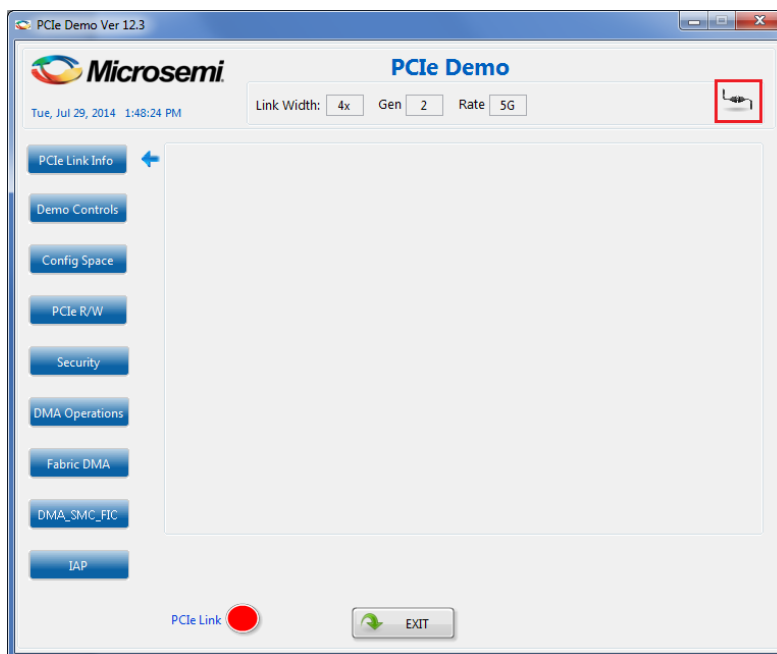

Figure 61 PCIe Demo GUI
3. Invoke the GUI from **ALL Programs > PCIeDemo > PCIe Demo GUI**. Figure 61 shows the PCIe Demo GUI window.